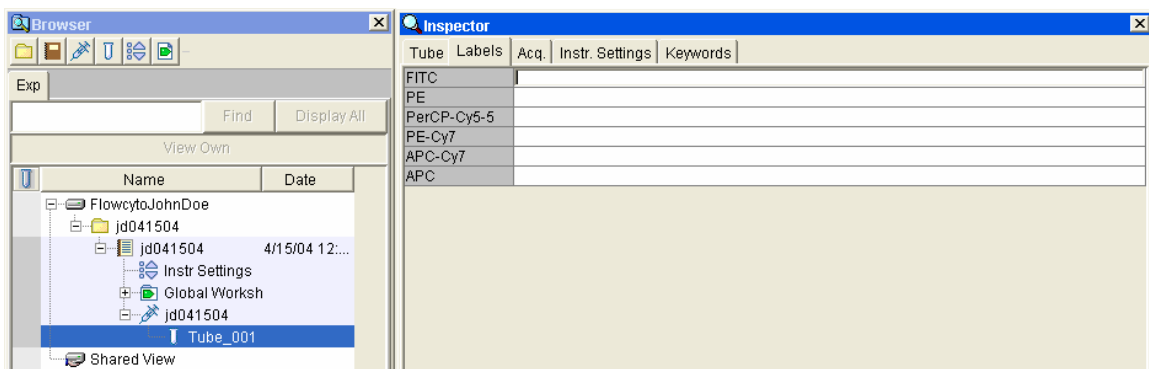

Figure 6
- To label your parameters, highlight your tube, go to the Inspector Window, and click on the **Labels Tab**. See **Figure 6**.